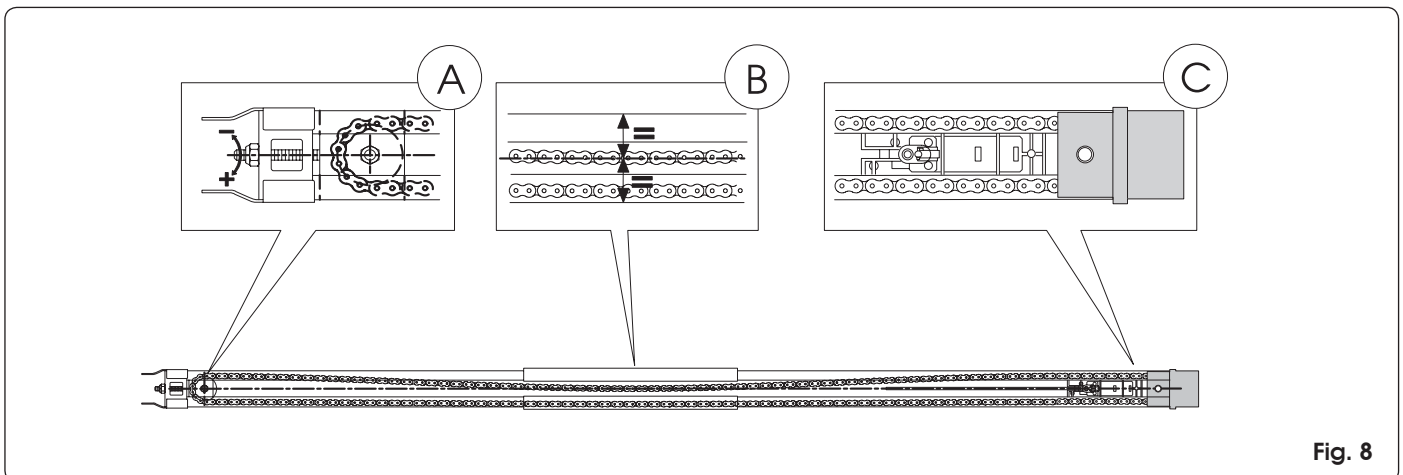

Fig. 8
- 5) Place the sliding guide on the side (Fig. 8).
- 6) Push the carriage toward the drive clutch unit (Fig.8 ref. C).
- 7) Adjust the tensioner (fig. 8 ref. A) so that the central zone of the loop, formed by the top branch of the chain, coincides with about the mid-point of the sliding guide (Fig. 8 ref. B).